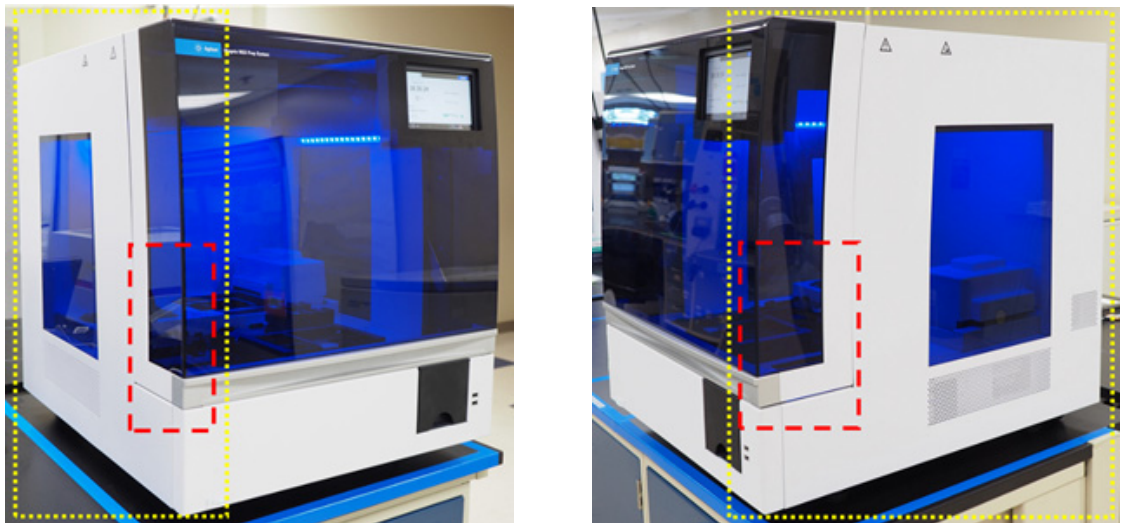

Figure 34 Exterior surfaces on the left and right sides of the instrument to be wiped down
- c Instrument Exterior - Left and Right:** Using a laboratory wipe moistened with 70% isopropyl alcohol, wipe down the left and right sides of the instrument, which are outlined in yellow in Figure 34. Areas outlined in red require particular attention for careful cleaning as these are the areas where the door is gripped during opening and closing.